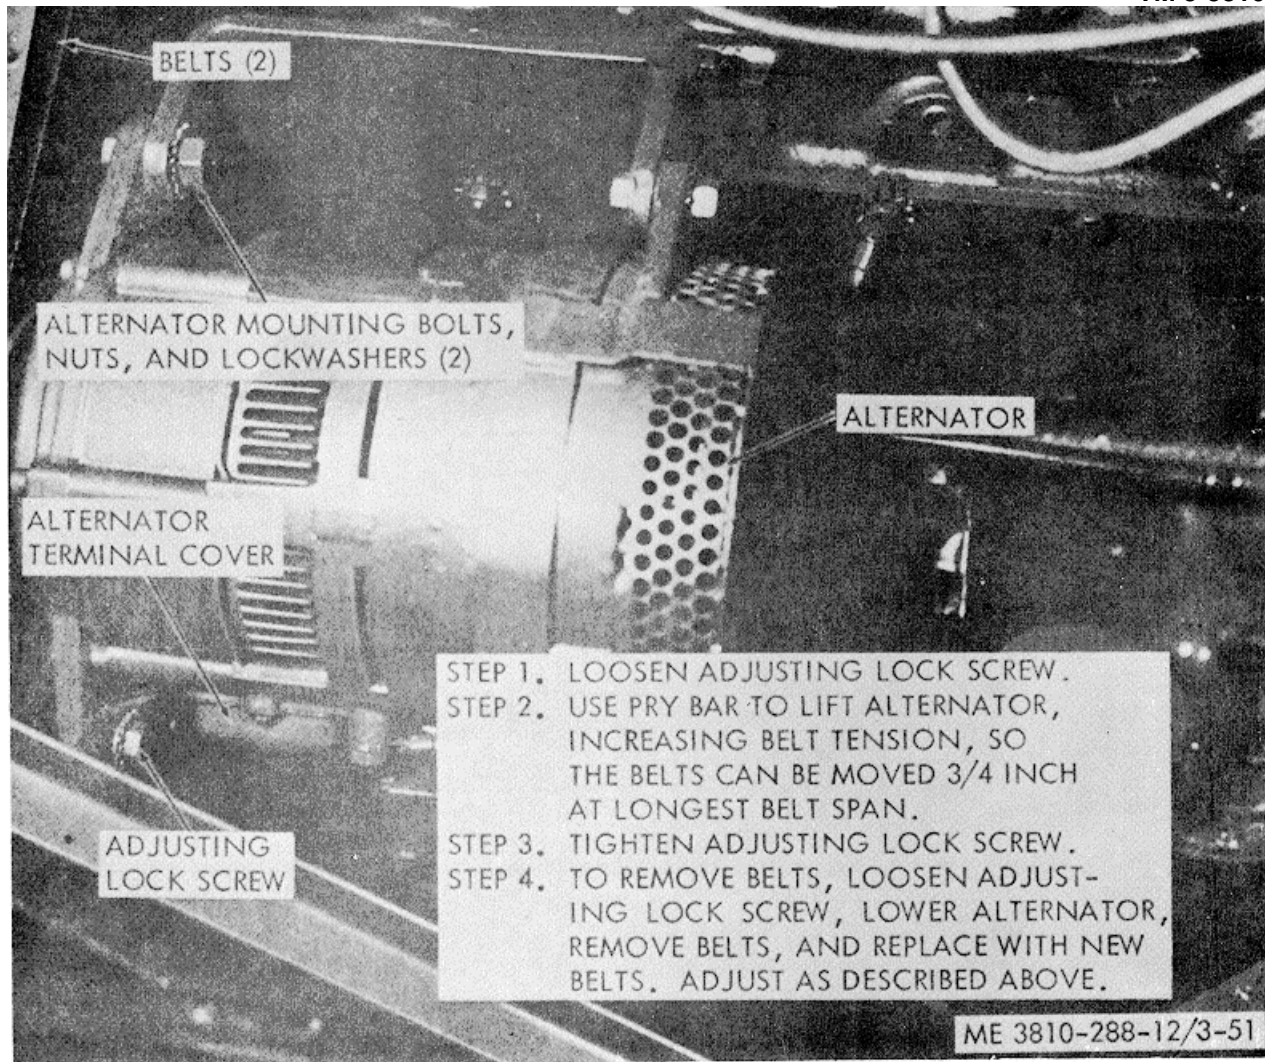

Figure 3-51. Alternator belt tension adjustment, removal and replacement.
(a) Remove the alternator terminal cover (fig. 3-51) to expose the positive (+) terminal and check the voltage from this terminal to a ground connection. Use an accurate voltmeter set on the 50 volt dc scale for this check. The ignition switch must be turned ON during this test. Full battery voltage of 24 volts should be shown. If no voltage is indicated, an open circuit between the battery and the alternator is indicated. Check battery cables, ignition switch, and wiring.
(4) *Alternator replacement.* Refer to figure 3-51 and loosen alternator drive belts. Remove all electrical connections to the alternator. Support the alternator, remove the adjusting lock screw and remove the alternator mounting bolts, nuts, and lockwashers. Remove the alternator.